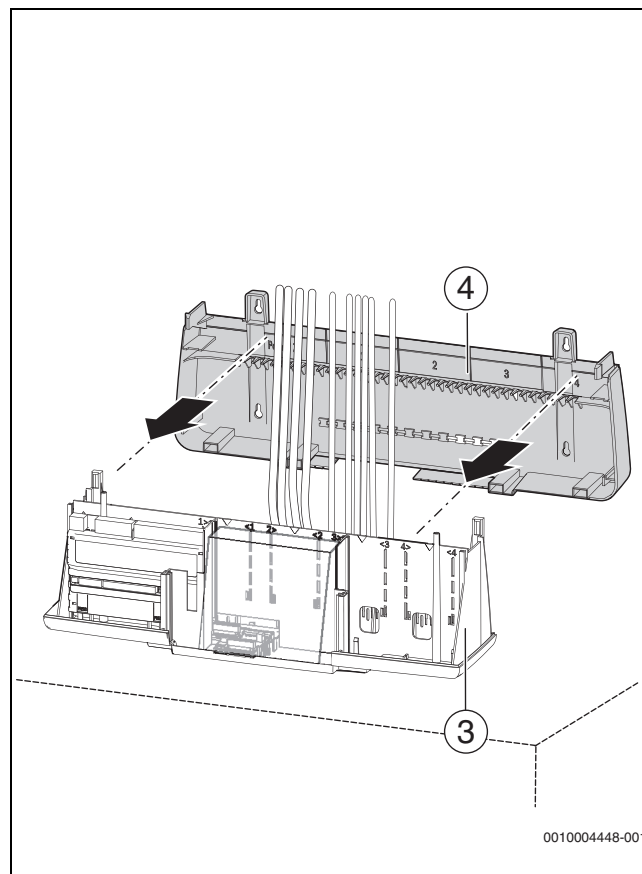

Fig. 33 Fasten back panel to the base of the casing.
- Fasten back panel (→ Figure 33, [4], page 29) to the base of the casing [3].